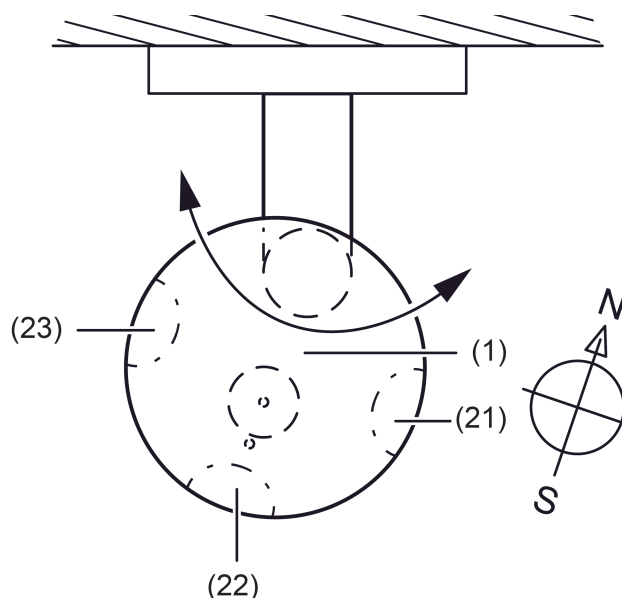

Figure 6: Orientation of the weather station
- (1) Translucent sensor head with the sensor surface of the precipitation sensor, the temperature sensor, the twilight sensor, the wind sensor and the 3 brightness sensors
- (2) Angular arm with variable latching for orienting the sensor head
- (3) Terminal box for connecting the KNX/EIB and the heating voltage to the sensor head
- (4) Location of the temperature sensor
- (5) Sensor surface of the precipitation sensor
- (6) Location of the twilight sensor and brightness sensor 2
- (7) Location of brightness sensor 1 (brightness sensor 3 is located in the 9 o'clock position (figure 6) and is thus not visible in this view)
- (8) Location of the thermal wind sensor